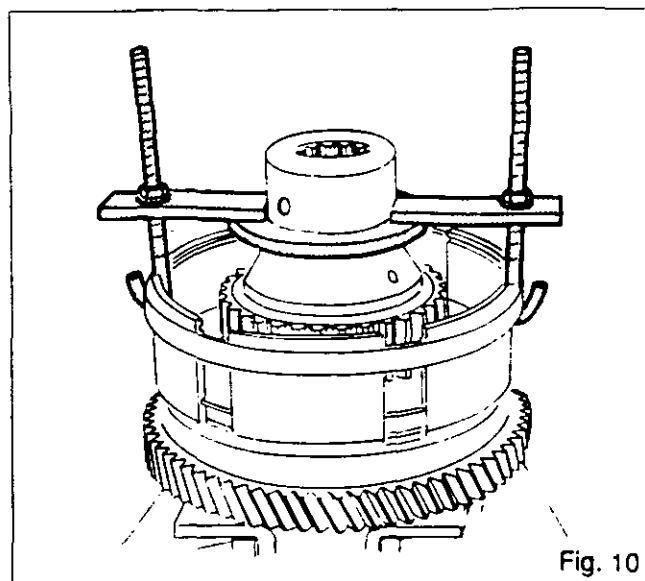
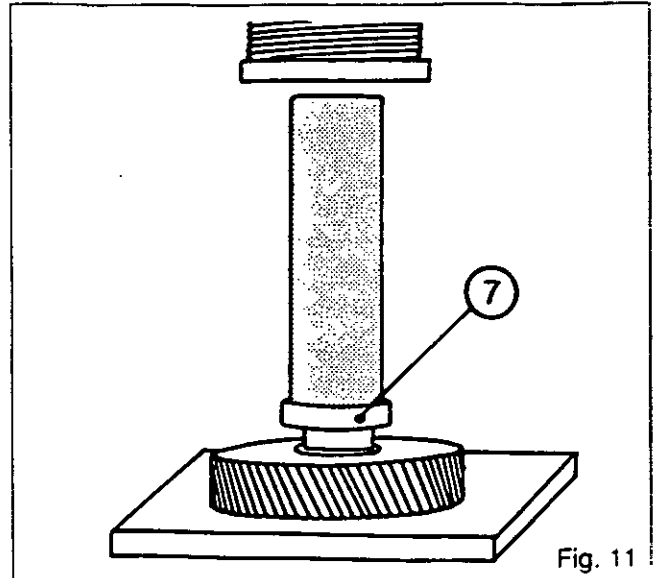
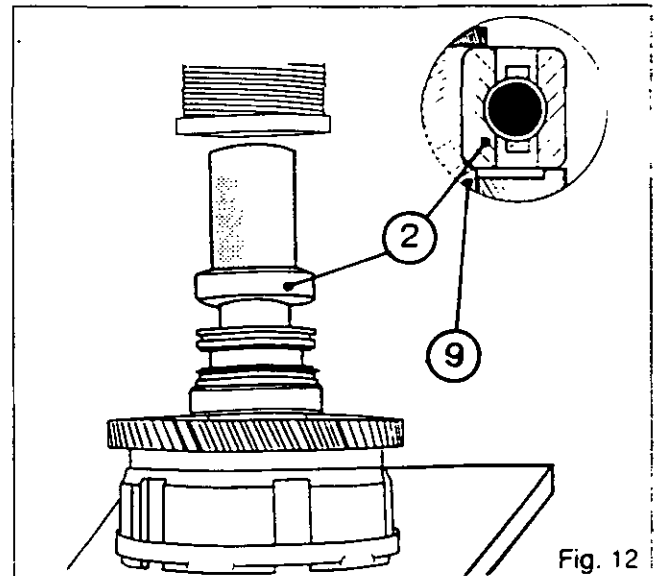

Fig. 10
Fig. 11
Fig. 12
- 29. Hold the spring (21) with a locally manufactured tool (Fig. 10). For tool see page 12.
- 30. Remove the screw (25) and the washer (26).
- 31. Remove the hub (24), the spring seat (22), the spring (21), the retainer (14) and the Belleville washer (13).
- 32. Extract the ball bearing (23).
- 33. Take out the piston (11).
- 34. Remove the O-rings (10) and (27).
36. Using a suitable device and a press, push the ball bearing (7) in as far as the shoulder (Fig. 11).
37. Place the seal rings (5) in their grooves. Ensure that they turn freely.
38. Slide the sleeve (4) over the rings, taking care not to damage them.
**Note: Position the larger diameter end of the sleeve towards the ball bearing (7).**
39. Using a suitable device and a press, push the ball bearing (2) in until it meets the shoulder of the support (9) (Fig. 12).
40. Fit the circlip (1).
41. Replace and lubricate the O-rings (10) and (27).
42. Lubricate the hole of the support housing (9) and the piston (11) and insert into the housing with a plastic mallet.
43. Fit the ball bearing (23) in the hub (24).
44. Refit the Belleville washer (13), the retainer (14), the spring (21), the spring seat (22) and the hub (24).
45. Compress the spring (21) with the tool (Fig. 10) (see section E). Fit the washer (26) and tighten the screw (25) smeared with Loctite 242 to a torque of 24 - 28 Nm.
46. Place the outer plates and the inner plates on the hub (24).
47. Fit the cover (20) with the circlip (18).